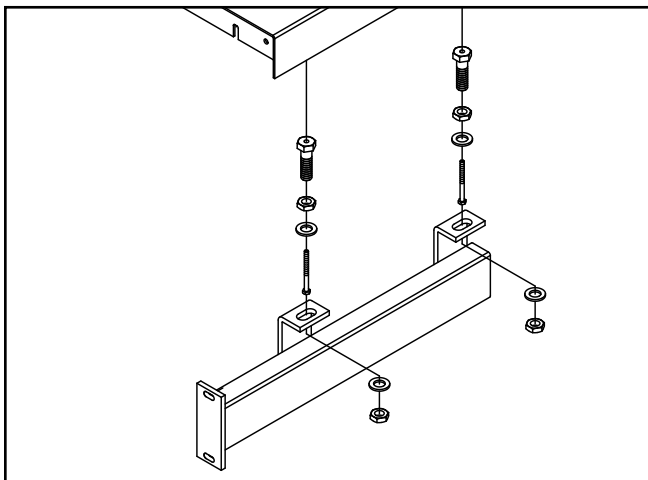

Figure 5. Attaching the braces.
3. Place the braces over the hollow hex nuts, followed by another flat washer and hex nut (see **Figure 5**).